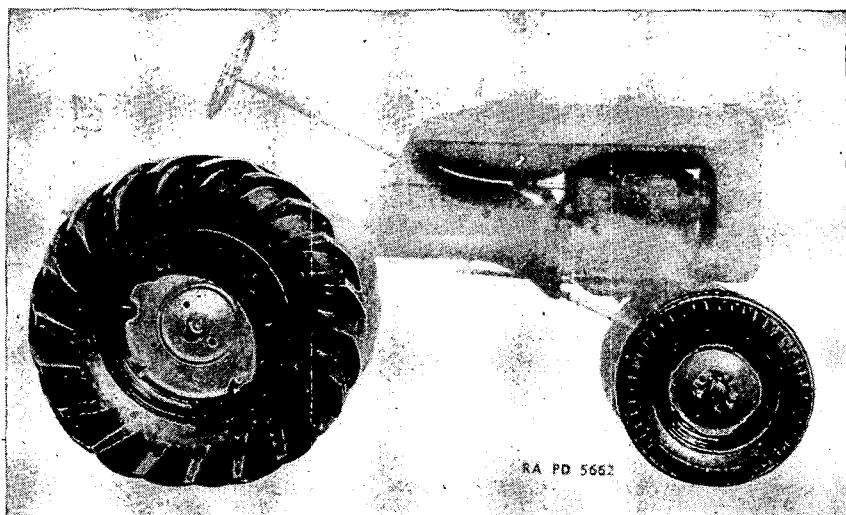

FIGURE 25.—Front and rear wheels.
61. Front wheels.—*a. General.*—The front wheels (fig. 25) are of the pressed steel type with drop center rim riveted to the wheel body. Each wheel is secured to a front wheel hub by five hub bolts. Front tires are 5.00 by 15 inch size, ribbed industrial type. Proper inflation pressure is 28 p. s. i.
b. To change front tires.—(1) Jack up the front wheel.